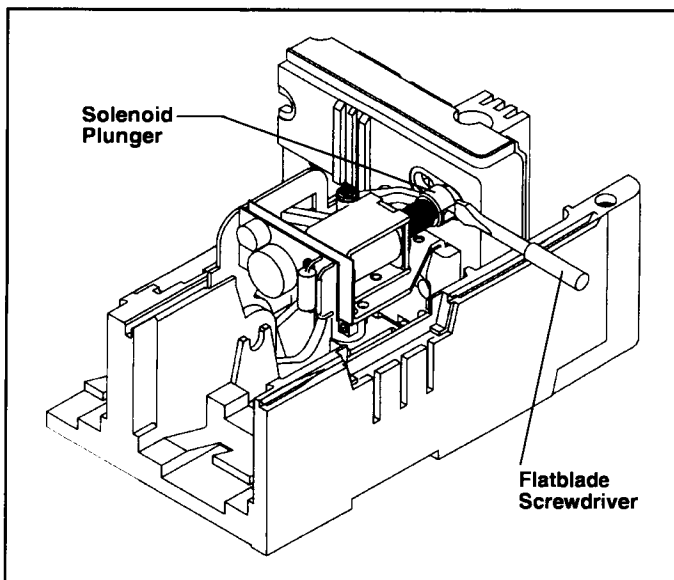

Fig. 2-6 Screwdriver Depressing Undervoltage Release Mechanism Solenoid Plunger
- Mechanical check. Using a small flat-blade screwdriver, (Fig. 2-6), push in and hold solenoid plunger. Switch circuit breaker to ON. Release solenoid plunger and check that circuit breaker trips.